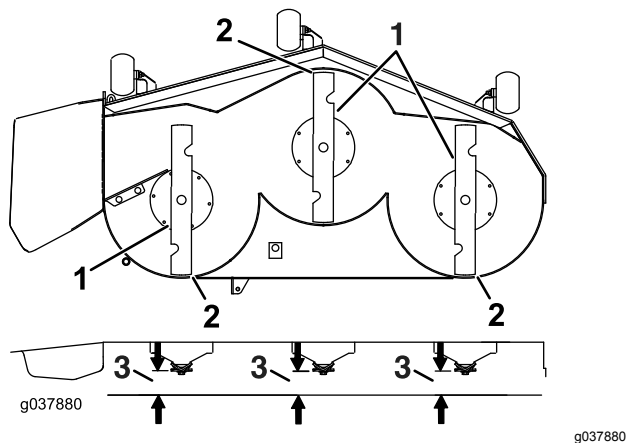

Figure 83
7. Check the front-to-rear blade level (Figure 83). Ensure the front blade tip is lower than the rear blade tip as shown in the block height and rake table. If adjustment is needed, continue with this procedure.